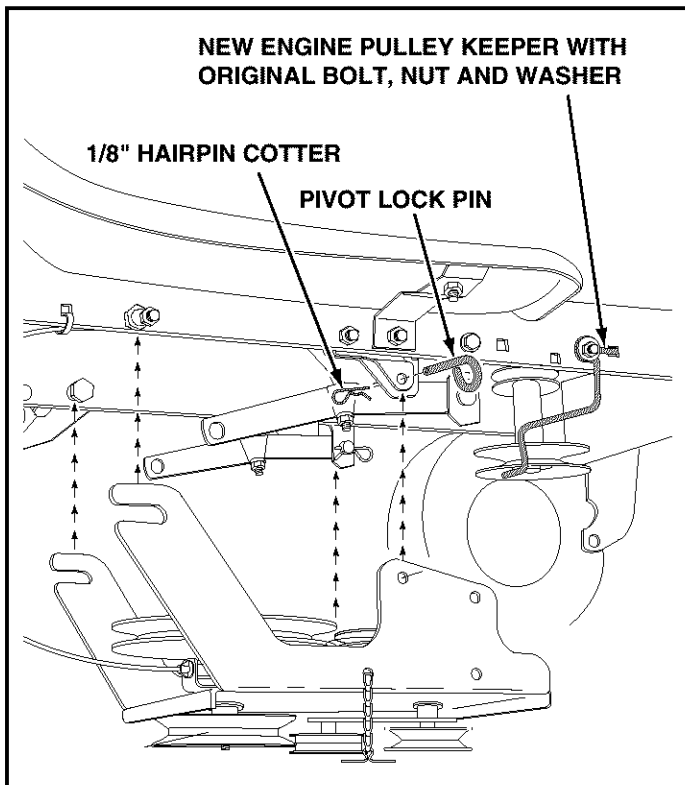

FIGURE 17
- Remove the engine pulley keeper from the side of the tractor frame by removing the washer and nut that secure the keeper. Attach the new pulley keeper supplied with the snow thrower, reusing the original bolt, washer and nut. See figure 17.
- Attach the clutch/idler assembly to the tractor frame by sliding the notched arms at the rear of the assembly onto the two shoulder bolts assembled to the inside of the tractor frame. Lift the front of the assembly, fitting the sides into the R.H. and L.H. hanger brackets. Attach the assembly to the brackets using two pivot lock pins and 1/8" hairpin cotters. See figure 17.